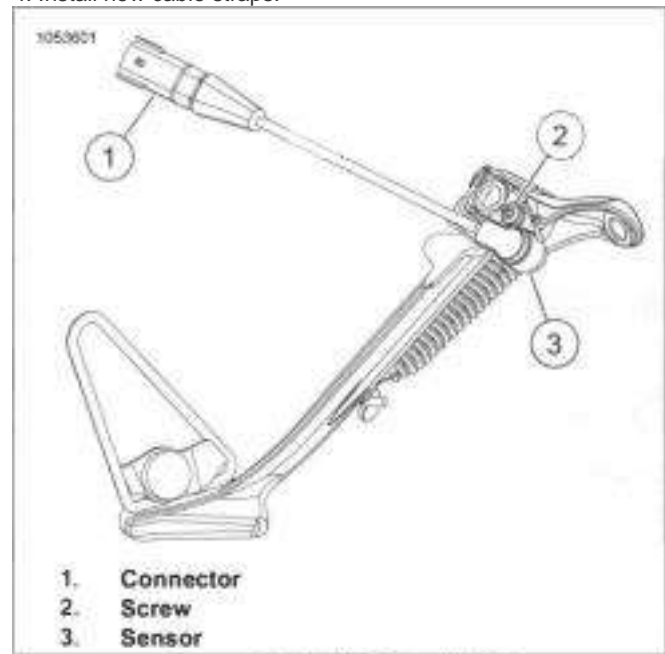

Figure 7-143. Jiffy Stand (HDI)
1. See Figure 7-143. Disconnect connector (1).
1. See Figure 7-143. Install jiffy stand sensor (3).
2. Install screw (2). Tighten.